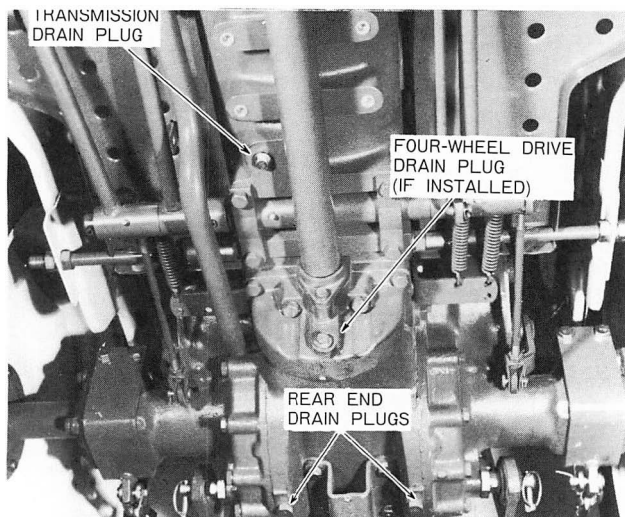

Figure 44 — Transmission, Rear Axle Center Housing and Rear Axle Oil Drain Plugs
1. With the oil at normal operating temperature, drain the oil by removing the transmission and rear axle drain plugs, Figure 44. Reinstall the plugs after the oil has drained. Discard the oil.